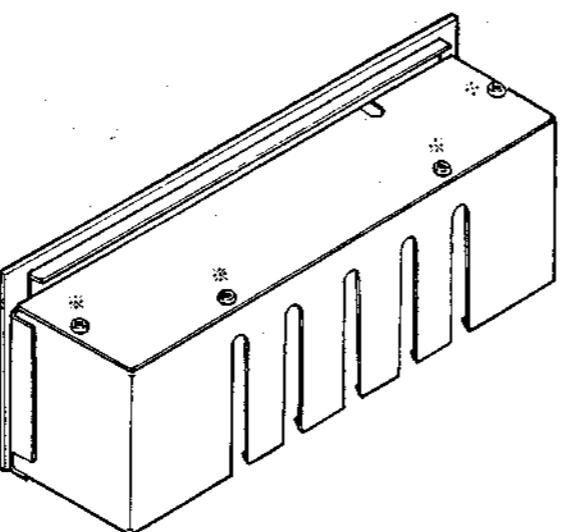

Fig. 2-1. Removal of Shield Plate
- c. Remove the four Phillips-Head screws (+RF3φ × 6) that secure the shield plate. See Fig. 2-1.